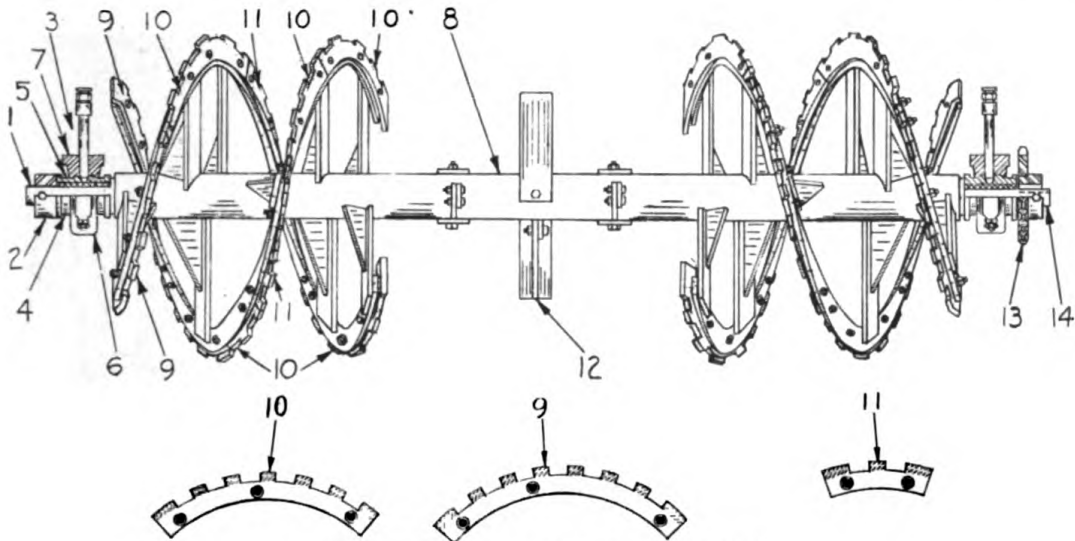

Figure 118. Conveyor feeder spiral.
The spiral assembly (10e), Figure 96 wearing strips, (9), (10), (11), Figure 118 paddles, (12) bearings (3) and shafts (1), (14) may be renewed without removing the assembly from the scraper. The wearing strips protect the spiral rims therefore, they should be replaced before the rim becomes worn. Paddles (12) should be replaced if they become broken or bent.